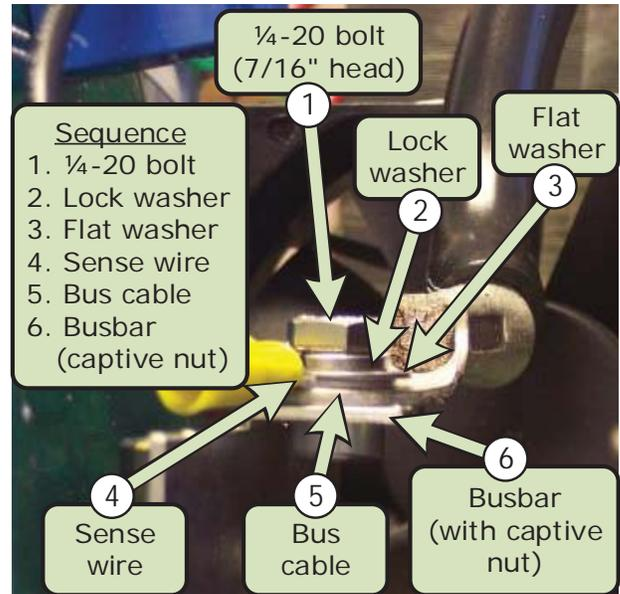

Figure 5, Connections to Busbar
**Caution:** Ensure the 1/4-20 bolt is reconnected in the same way as it was removed, and is correctly torqued. This connection carries very high DC current, and an improper connection will affect the performance of the inverter and may cause damage. See Figure 5 for reference.